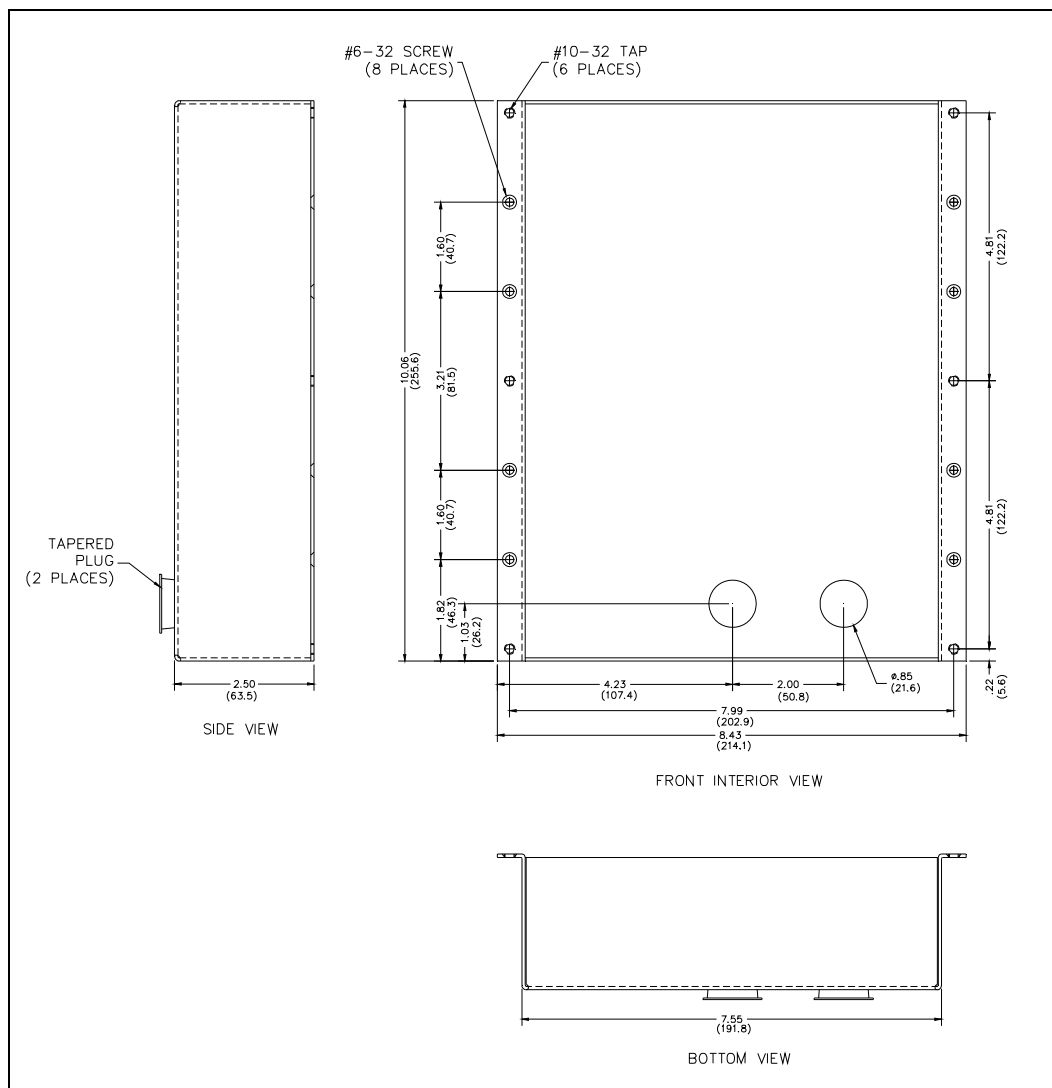

Figure 12. Model 277-001 Back Box Mounting Detail
1. Mount the back box to the structure using appropriate hardware (see Figure 12).